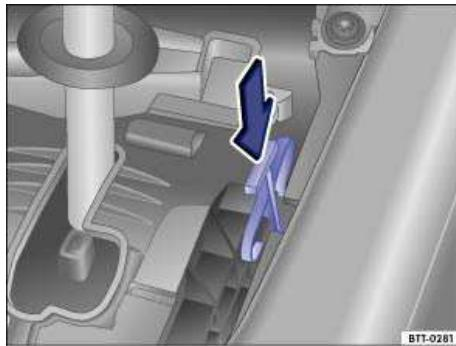

Fig. 187 Releasing the selector lever lock.
- Push the release lever **⇒ fig. 187** in the direction of the arrow and hold it in this position.